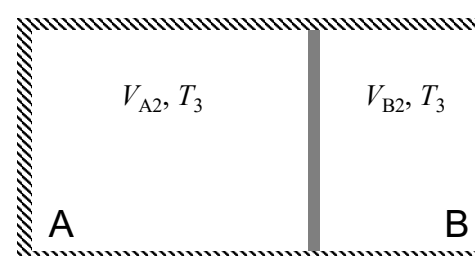

Fig. 1.3. State 3
- (1) Prove that the process from State 1 to State 2 is a constant-pressure process. In other words, prove that pressure p of each chamber at an arbitrary state between State 1 and State 2 is equal to p_1 . In the answer, define temperature and volume of the gas in Chamber A at an arbitrary state as T_A and V_A , respectively. In the same way, define temperature and volume of the gas in Chamber B as T_B and V_B , respectively. You may continue answering the following questions on the premise that the proposition in Question (1) is true whether you prove it or not.
- (2) Determine T_{A2} and T_{B2} in terms of $p_1, V_{A1}, V_{B1}, Q_{12}, T_1$ and κ as necessary.
- (3) Determine the changes of internal energy of Chambers A $U_{A2}-U_{A1}$ and B $U_{B2}-U_{B1}$ during the process from State 1 to State 2 in terms of Q_{12} and κ .
- (4) Determine the work L_{A12} done by the gas in Chamber A on the gas in Chamber B during the process from State 1 to State 2 in terms of Q_{12} and κ .
- (5) Determine the change of entropy of total gas $\Delta S_A+\Delta S_B$ during the process from State 1 to State 2 in terms of $p_1, V_{A1}, V_{B1}, Q_{12}, T_1$ and κ .
- (6) While the entire chamber is thermally insulated from the outside, the wall separating Chambers A and B is fixed in position and made thermally transparent. After thermal equilibrium is established, the temperatures of the gases in both chambers become T_3 . This is State 3 as shown in Fig. 1.3. Determine T_3 in terms of the physical quantities given in the problem.